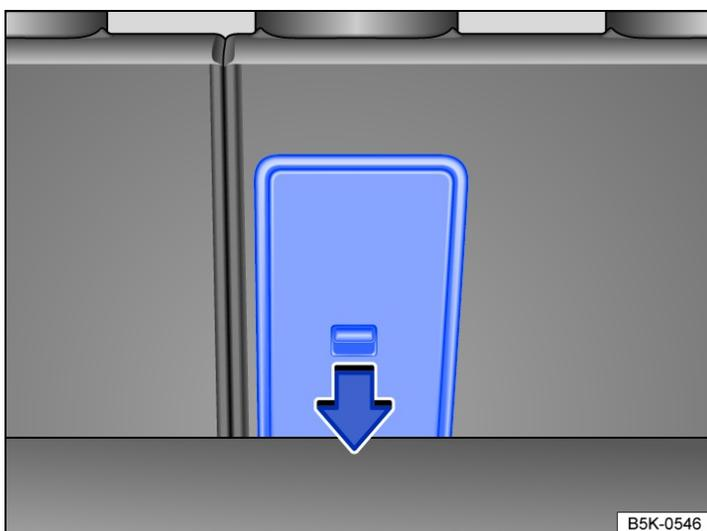

Fig. 2 In the rear seat backrest: opening the load-through hatch.
- OR: opening the load-through hatch from the luggage compartment: push the release lever down in the direction of the arrow *→ Fig. 2* and push the cover of the load-through hatch forward.